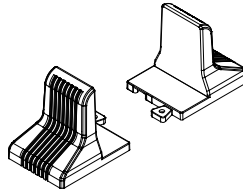

Figure 2-1 Support bases
1. Take out support bases from the accessories, as shown in Figure 2-1, and then put the support bases down on the installation surface flatwise.